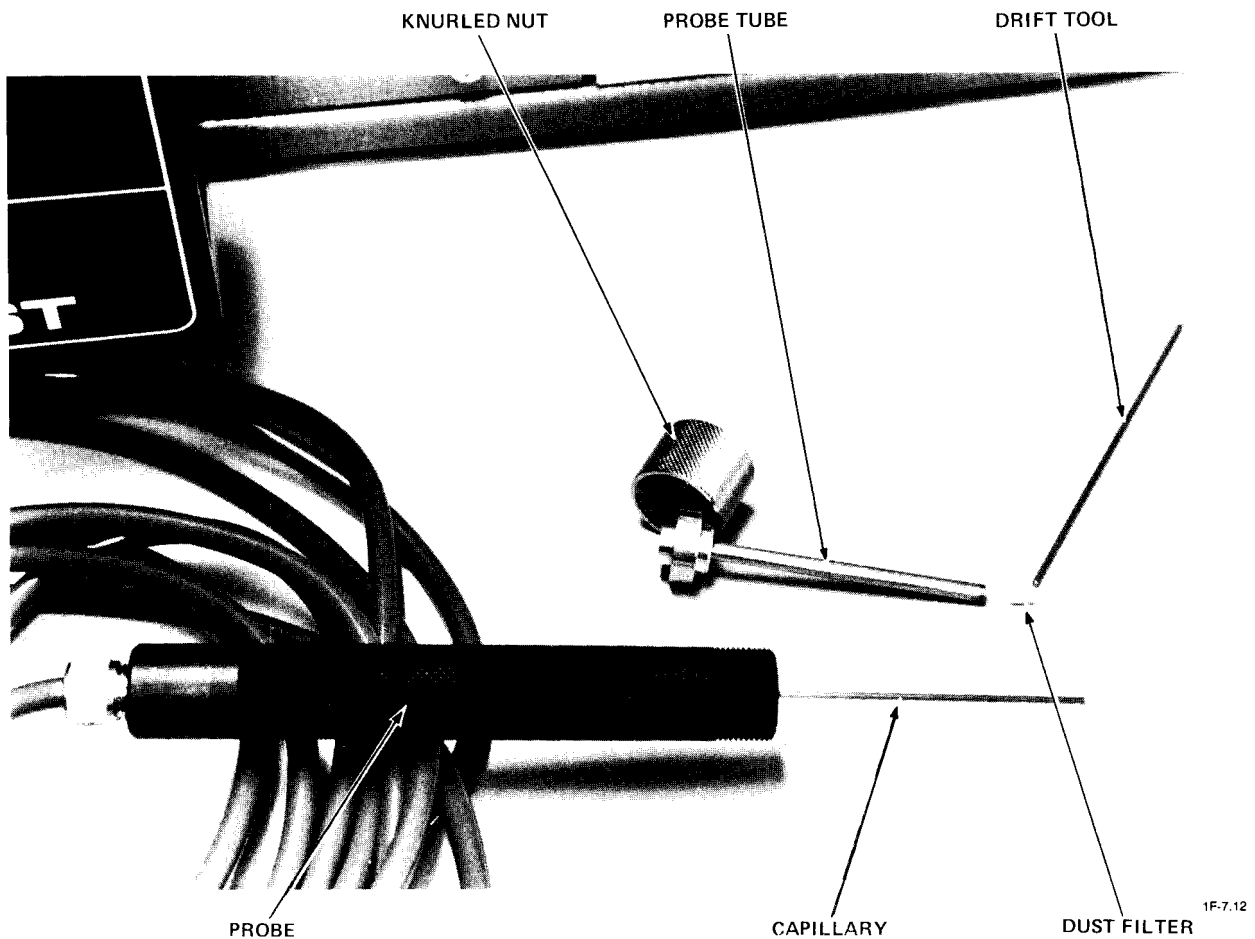

Figure A-7 - Changing the Dust Filter on the QUICK-TEST
Change the dust filter as follows (see Figure A-7).
1. Unscrew the knurled nut and carefully remove the probe tube from the end of the probe (see Figure A-7).
1. Disassemble the probe as follows (see Figure A-7).
- c. Using the drift tool supplied with the QUICK-TEST, push the dust filter out of the probe tube (see Figure A-7).